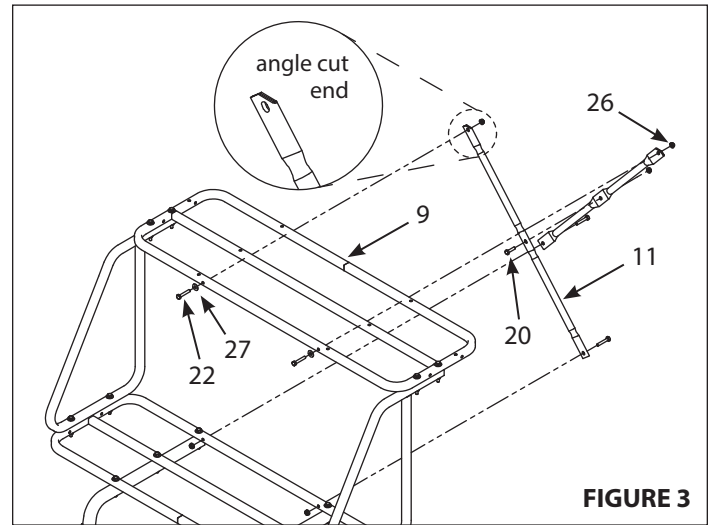

FIGURE 3
4. a. Attach the platform X-braces (11) to the foot and seat platforms (9) using four 1/4-20 x 1-1/2" bolts (22), locknuts (26) and two steel washers (27). **SEE FIGURE 3.**
NOTE: Each X-brace attaches to the inside of the seat frame, under the mesh. Make sure the angle cut ends of X-brace are attached to seat frame. **SEE FIGURE 3. Use two steel washers at this location.**
- b. Next, secure the center of each X-brace (11) together using one 1/4-20 x 1" bolt (20) and locknut (26). **SEE FIGURE 3.**